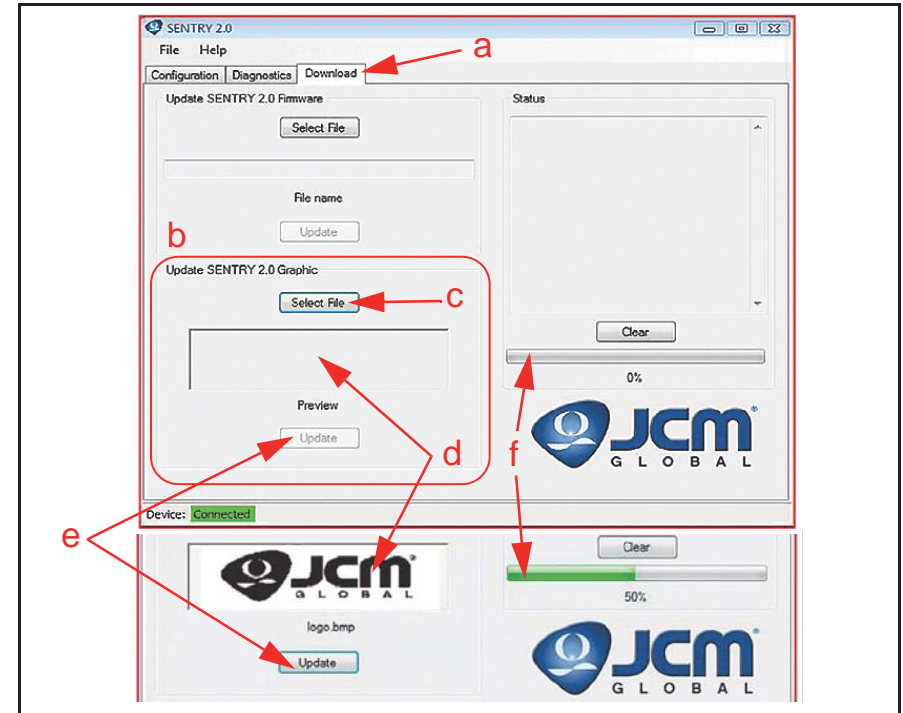

Figure 13 SENTRY 2.0 Update Graphic Download Screen
2. Download the valid custom graphic into the Sentry 2.0 Unit. To do so, select the Download Tab on the Sentry 2.0 Utility Screen (Figure 13 a).
3. From the Update SENTRY 2.0 Graphic field (Figure 13 b), click the Select File button (Figure 13 c). Browse the PC for the folder where the custom ".bmp format graphic" was saved, then click to select it.
4. Once selected, the Custom Graphic appears in the Preview window (Figure 13 d). The file name appears in place of "Preview."
5. When the new Graphic appears, click the Update button (Figure 13 e) to write the Custom Customer's Graphic into the Sentry 2.0 Memory. The Custom Graphic's Download Status and Progress (percentage) are displayed as the download progresses from 0% to 100% (Figure 13 f).